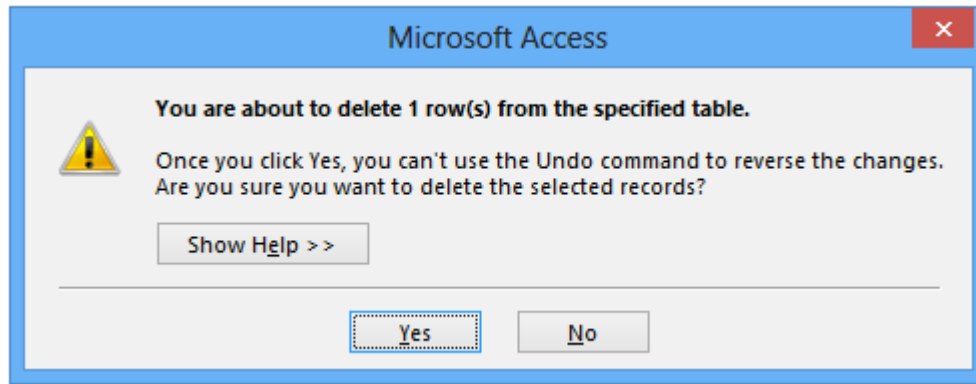

Figure 46: Delete Message Box
4. Execute the Query: When you try to execute the query, the message in Figure 46 appears. Click **Yes** to delete the row. You should only perform Delete queries once. If you perform them more than one time, you will generate an error message about the record not existing. Close and save the query as “SQL7” when prompted.